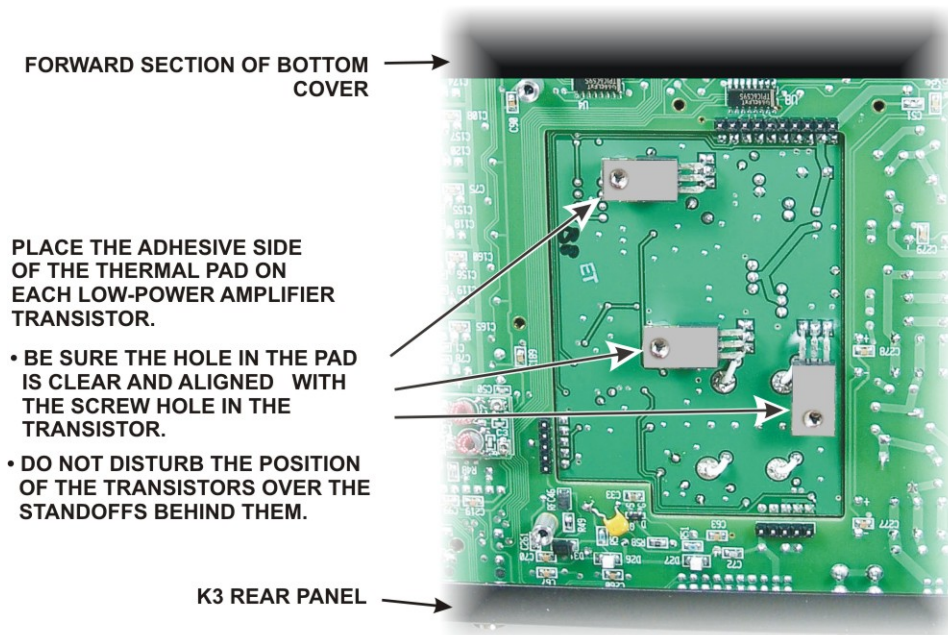

Figure 91. Installing the Low Power Amplifier Transistor Thermal Pads.
□ Locate the three thermal pads and clear the screw holes. They are already cut. If material is still covering the holes, push a small tool through the hole to remove the unwanted material. Remove the protective backing from each pad and press the adhesive side against a low-power amplifier transistor with the hole in the pad aligned with the screw hole in the transistor as shown in Figure 91. Take care not to disturb the position of the transistors over the standoffs.